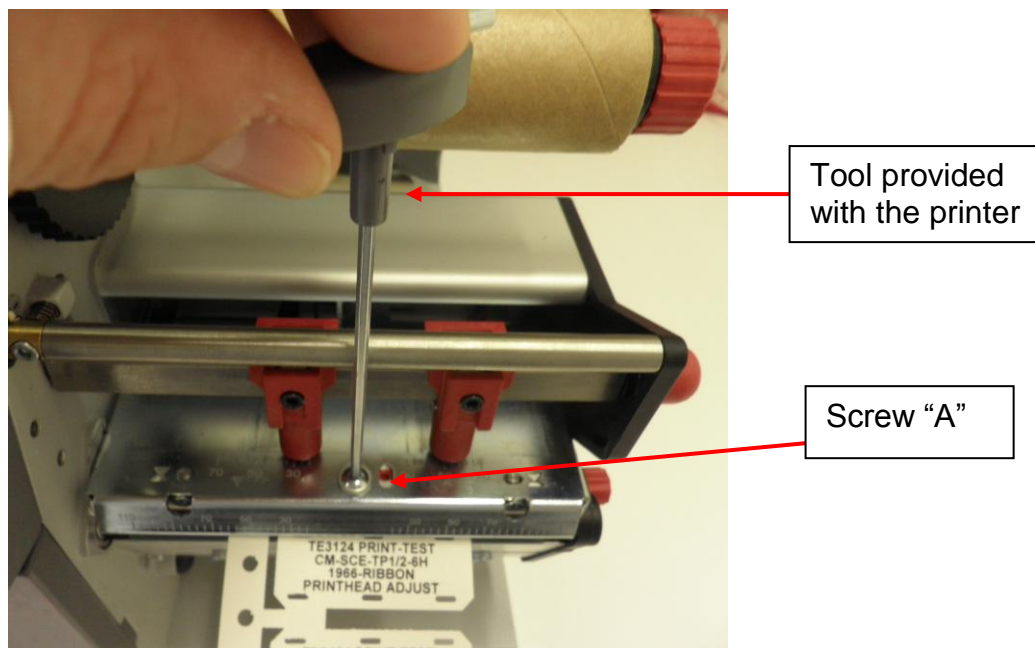

Figure 6- Printhead loosening
- 3.4. To align the printhead, remove the ribbon from the printer and loosen the printhead retaining screw marked “A” shown in Figure 6 with the tool provided with the printer shown in Figure 6.